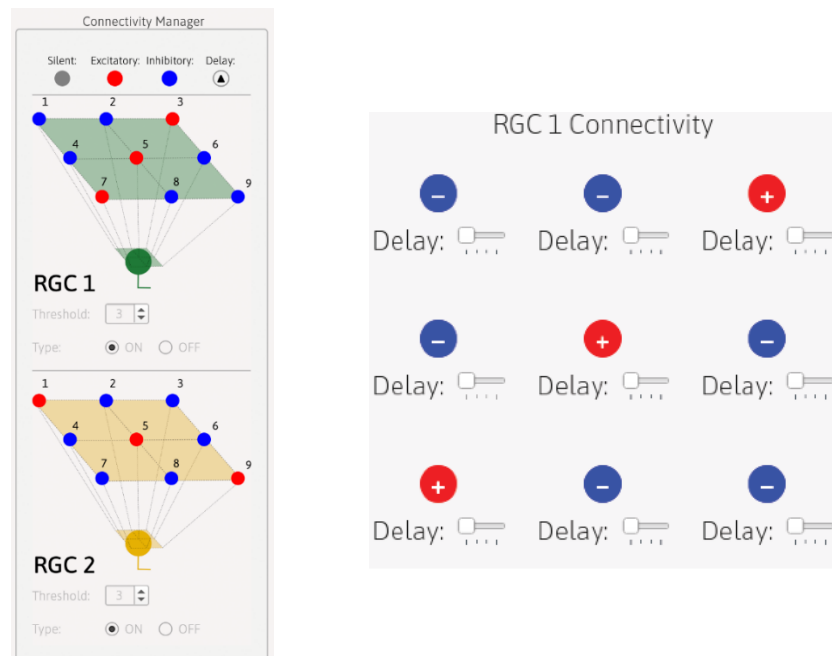

Figure 39. Connectivity Manager in main GUI (*left*) and its pop-up window (*right*).
e. Connectivity Manager (**Fig. 39**).
- iii. To change the connectivity to one of the ganglion cells, simply click on its circuit (**Fig. 39, left**). This will open a pop-up window (**Fig. 39, right**) where you can change the settings for each model photoreceptor.